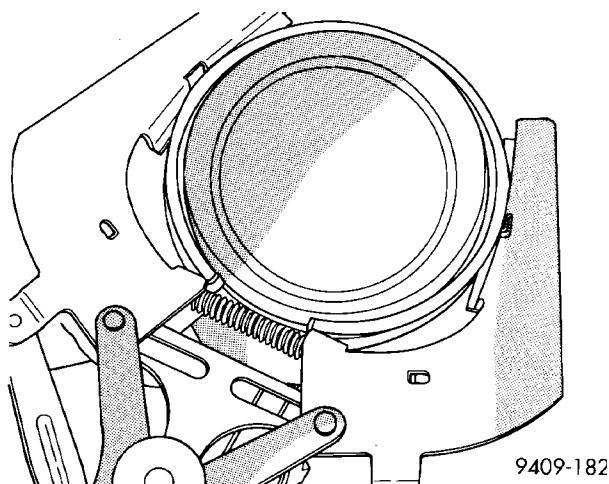

Fig. 71 Piston Rings—Removing and Installing
(1) Using a suitable ring expander, remove upper and intermediate piston rings (Fig. 71).
(2) Remove the upper oil ring side rail, lower oil ring side rail and then oil ring expander from piston.